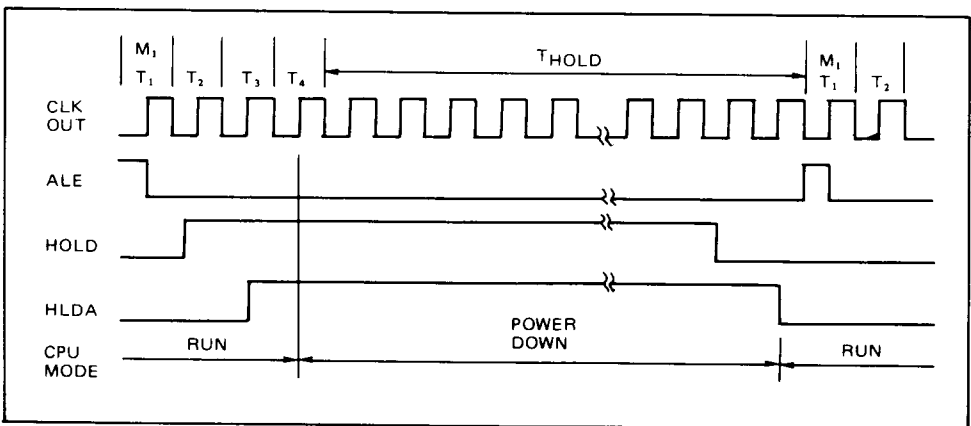

Figure 8. Started and Released by HOLD
**(2) Start by means of HOLD pin (See Figure 8.)**